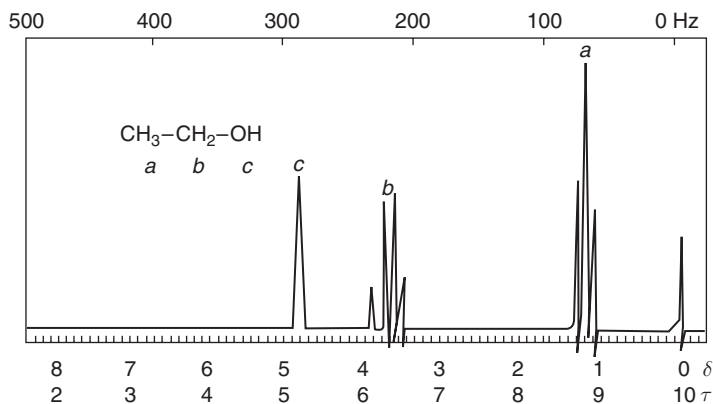

Figure 39 NMR spectrum of ethanol.
3. **Ethanol:** It has three kinds of protons and three signals can be expected. The NMR spectrum (Figure 39) shows the following three signals.